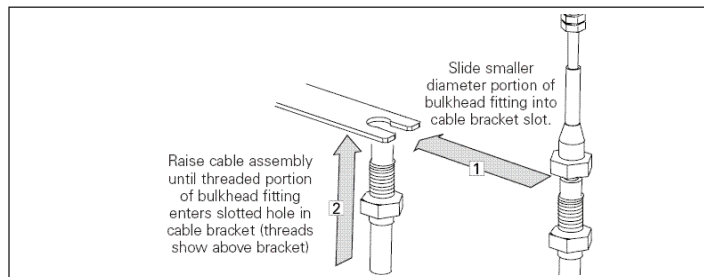

Figure 12. Step 10
3. Slide the smaller diameter portion of bulkhead fitting in to the slot on the cable bracket (see **Figure 12**).
4. Raise cable assembly until threads of the bulkhead fitting show above the slotted hole in the bracket (see **Figure 12**).